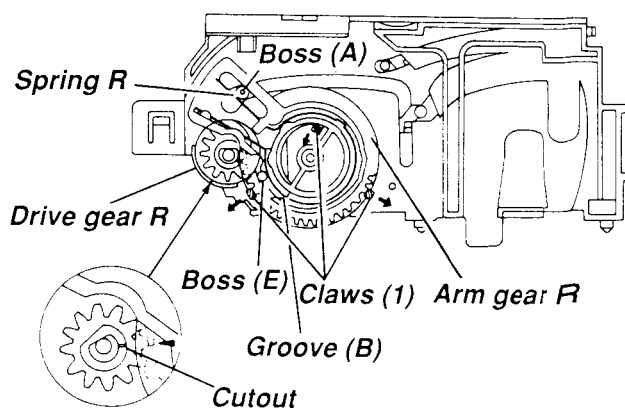

Fig. 4-1-4
1. Move three claws (1) in the direction of the arrow and remove the arm gear R. (Refer to Fig. 4-1-4.)
- Pay attention to positions of the boss (A) and the spring R. (Refer to Fig. 4-1-4.)
- In installing the holder guide, insert the tip of the door lock lever (B) into the hole (B)' on the holder guide.
- Confirm that boss (E) goes into groove (B) of Fig. 4-1-4.
**(10) Door lock spring replacement**